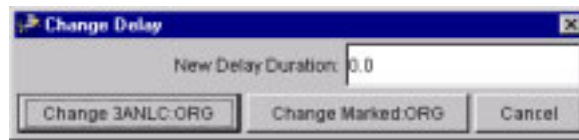

Figure 5.53 Change Delay Window
5. Click Change Delay. The menu of lozenge commands closes, and the Change Delay window opens (Figure 5.53).